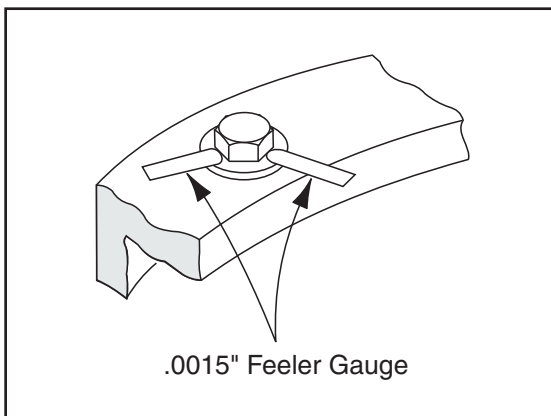

Figure 3-18. Swing Bearing Bolt Feeler Gauge Check
2. At the positions indicated on Figure 3-18., Swing Bearing Bolt Feeler Gauge Check, try and insert the 0.0015" feeler gauge between the bolt head and hardened washer at the arrow indicated position.
4. At the position indicated on Figure 3-18., Swing Bearing Bolt Feeler Gauge Check, try and insert the 0.0015" feeler gauge between the bolt head and hardened washer at the arrow indicated position.